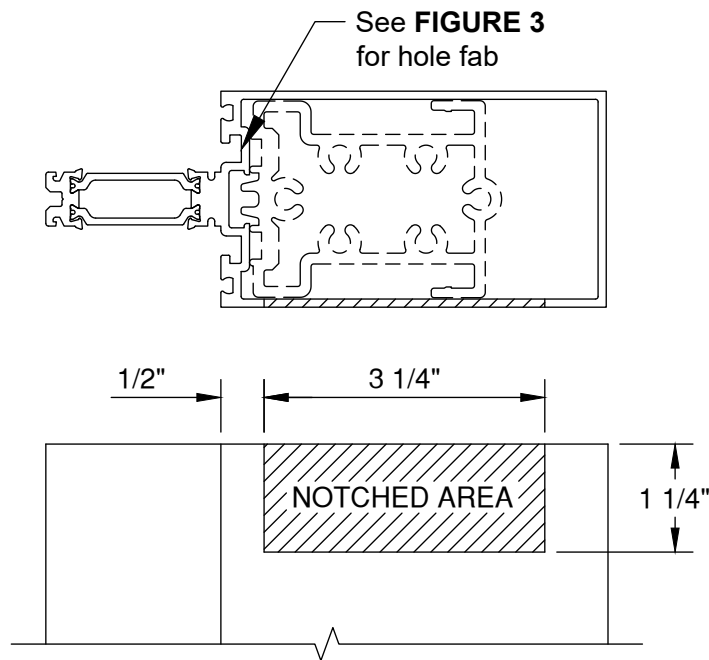

FIGURE 6
NOTE: Last bay intermediate horizontals must be notched. SEE FIGURE 6.
- 2.1.8 Install lower verticals plumb and level, ensuring proper spacing out from floor slab or beam. Place shims under vertical mullion at sill to evenly distribute deadload from wall. **NOTE: Last bay intermediate horizontals must be notched. SEE FIGURE 6.**